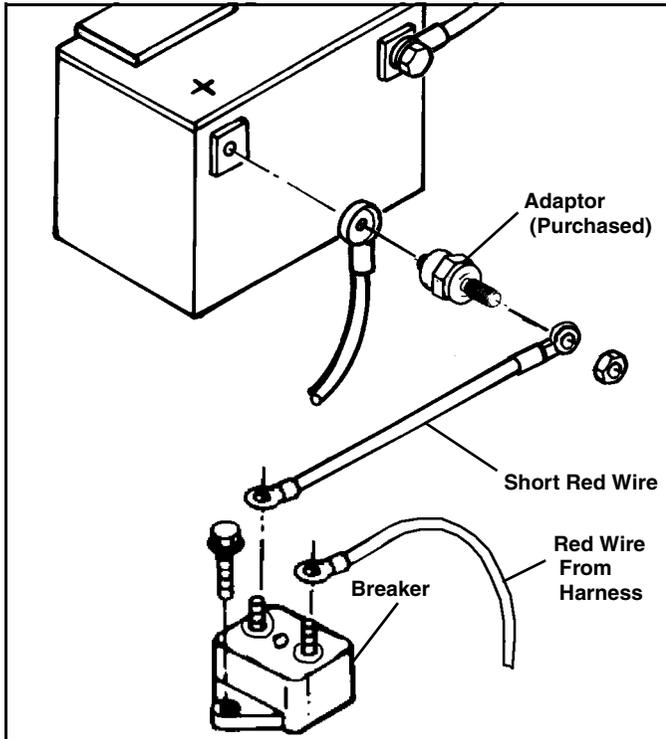

Figure 2-5
*NOTE: If the vehicle has a "side post" battery, it will be necessary to install adaptors (#96100773) to make connections at the vehicle battery. (See Figure 2-5)*